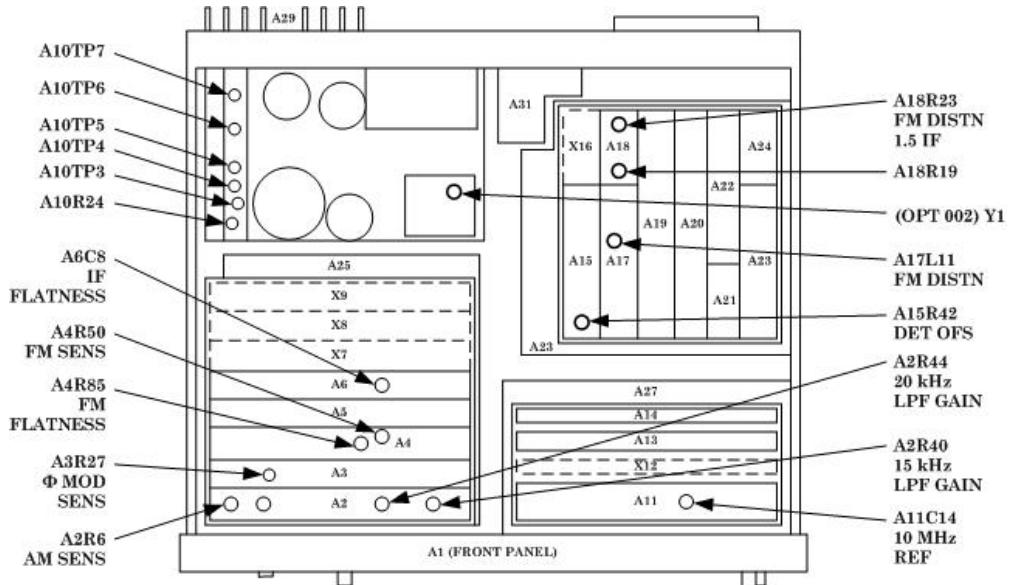

Figure 1. Modulation analyzer - top view.
(1) Connect frequency difference meter signal input to TI **INT 10 MHz OUT** or rear panel time base **10 MHz OUTPUT (OPTION 002)**.
(2) Connect time/frequency workstation output to frequency difference meter reference input. If TI frequency stability is not $>1 \times 10^{-9}$, perform **b** below.
b. Adjustments. Adjust Y1 COARSE and FINE controls (fig. 1) for a frequency stability of $>1 \times 10^{-9}$.
(1) Connect TI **CALIBRATION OUTPUT** to TI **INPUT**.
(2) Press **MEASUREMENT AM** and **CALIBRATION** pushbuttons and allow time for at least two readings. TI indication will be between 99 and 101 percent.
(3) Press **2.2 SPCL** pushbuttons and allow time for at least two readings. If TI does not indicate between 99 and 101 percent, perform **b** below. Record indication for use in paragraph 13.
b. Adjustments. Adjust A2R6 AM SENS (fig. 1) for 100 percent indication on TI display (R).
(11) Adjust calibrator output for a 20 kHz average deviation as displayed on TI.
(12) Press **TI RATIO %** pushbutton.
(13) Move connection to **FM ÷ 32 OUTPUT** without disturbing calibration fixture controls. Multiply displayed ratio by value recorded in (2) above. Result will be between 12.35 and 12.65 percent REL.
b. Adjustments. Adjust A4R50 FN SENS (fig. 1) for a 100 percent indication on TI display (R).